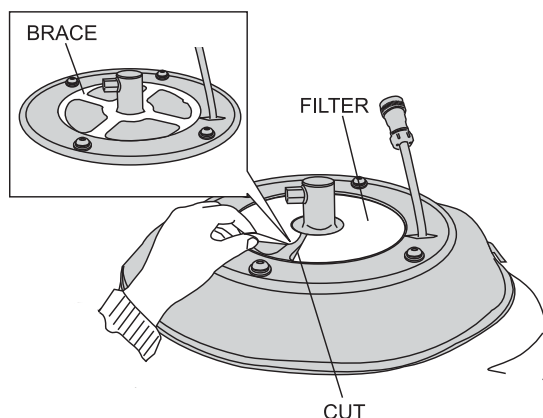

Figure 32. Filter Placement
5. Install a new filter over the brace as shown in Figure 32. Be sure to align the **cut of the filter** over the brace.